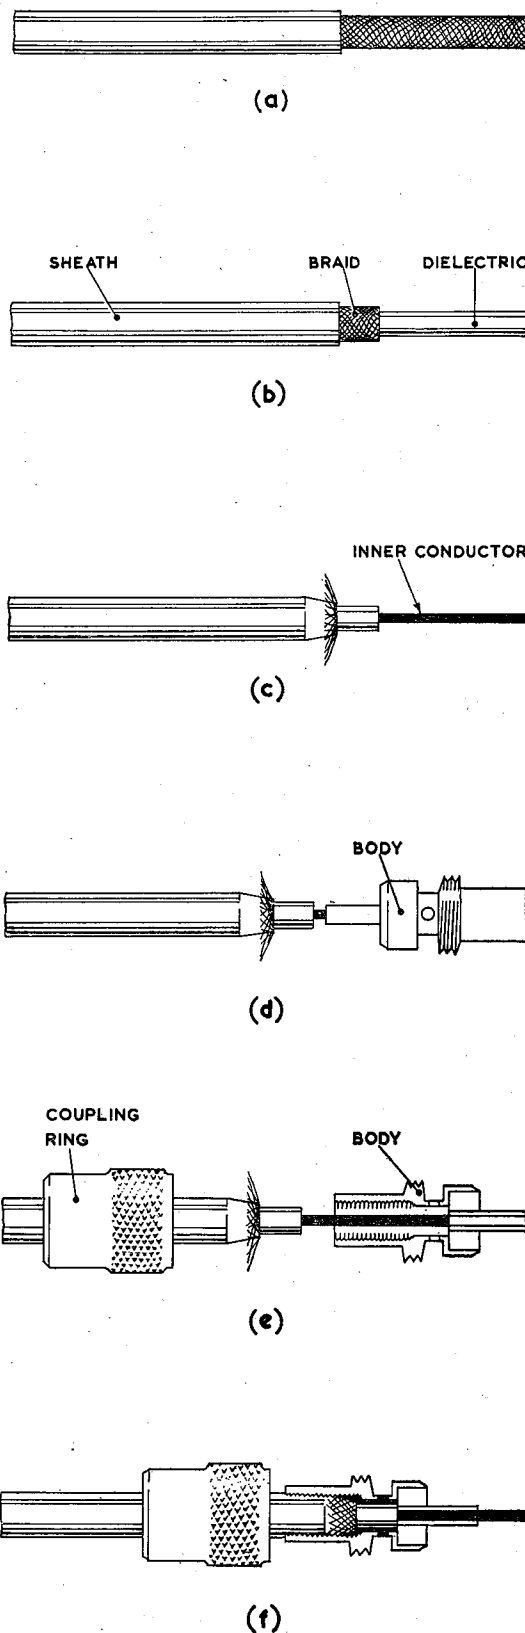

Fig. 3. Straight plug assembly for frequencies to 300 Mc/s
17. The type of cable appropriate to the relevant connector should be selected, prepared and assembled, in accordance with fig. 3 and the following procedure:—
- (1) Carefully cut through the sheath, completely around the cable, at a point approximately $\frac{7}{8}$ in. from the end of the cable, taking care not to cut into or mark the braid under the sheath.
- (2) Slit the sheath, longitudinally, from the circular cut to the end of the cable, and peel off the cut piece of sheath from the cable, fig. 3 (a). Again, care should be taken that the braid under the sheath is not cut or marked in any way.
- (3) Carefully cut through the braid, completely around the cable, at a point approximately $\frac{11}{16}$ in. from the end of the cable, taking care not to damage the dielectric under the braid.
- (4) Work the cut piece of braid loose from the dielectric and slide it off the end of the cable, fig. 3 (b).
(5) Carefully cut through the dielectric, completely around the cable, at a point approximately $\frac{1}{8}$ in. from the end of the cable, taking care not to cut into or damage the inner conductor. Do not remove the dielectric from the inner conductor.
(6) Repeat sub-para. (5) at $\frac{1}{8}$ in. intervals working from the original cut to the end of the cable.
(7) Slide off each piece of dielectric from the inner conductor.
(8) Carefully taper the sheath down to the braid, from a point approximately $\frac{1}{4}$ in. from the cut end of the sheath, taking care that the braid is not damaged.
(9) Unpick and splay out the braid evenly around the cable.
(10) Fold the braid back over the tapered portion of the dielectric and evenly around the cable, fig. 3 (c).
(11) Tin the end of the inner conductor, taking care that the dielectric is not damaged by overheating.
(12) Remove the coupling ring from the body of the connector and slide it on to the cable and clear of the prepared end.
(13) Offer up the front end of the contact pin in the connector body, to the tinned end of the inner conductor, and ensure that the inner conductor slides easily into the contact pin, fig. 3 (d).
(14) Insert the inner conductor in to the rear of the contact pin, through the rear of the connector body, fig. 3 (e).
(15) Insert the cable fully in to the connector body, by screwing the body on to the cable sheath, until the cable dielectric is seated on to the connector insulation, as viewed through the two diametrically opposite holes in the neck of the connector body, fig. 3 (f).
(16) Heat the cable entry end of the body to about 160°C , using a weak gas flame, maintaining this heat just long enough to melt the outer sheath of the cable. Care must be taken that the dielectric is not overheated during the process.
(17) Allow the connector body and cable to cool down. Do not move the assembly whilst the cooling period is in progress.
(18) Solder the contact pin to the inner conductor by applying heat to the front end of the contact pin, taking care that the connector insulation and the cable dielectric are not damaged by overheating.
(19) Slide the coupling ring down the cable and screw it on to the connector body.